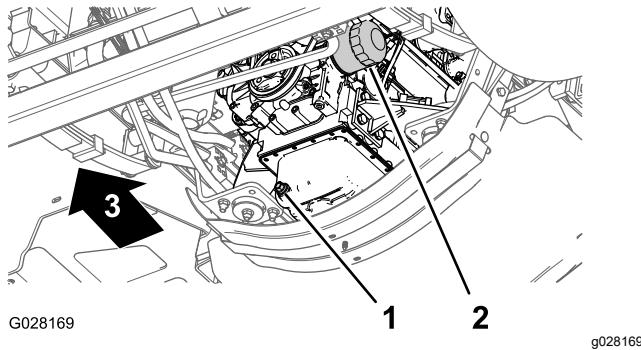

Figure 75
3. Align a drain pan under the engine oil filter (Figure 75).
4. Remove the old oil filter (Figure 75).
8. Install the oil filter to the filter adapter and turn the oil filter clockwise until the rubber gasket contacts the filter adapter, then tighten the filter an additional 1/2 turn (Figure 75).
1. Align a drain pan under the drain plug (Figure 75).
2. Remove the drain plug and allow the oil to drain completely (Figure 75).